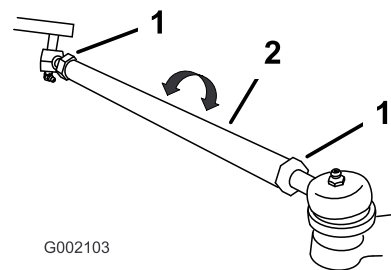

Figure 45
3. If the measurement does not fall within the specified range (refer to the dimensions and parameters at the beginning of this procedure), loosen the jam nuts at both ends of the tie rods (Figure 45).